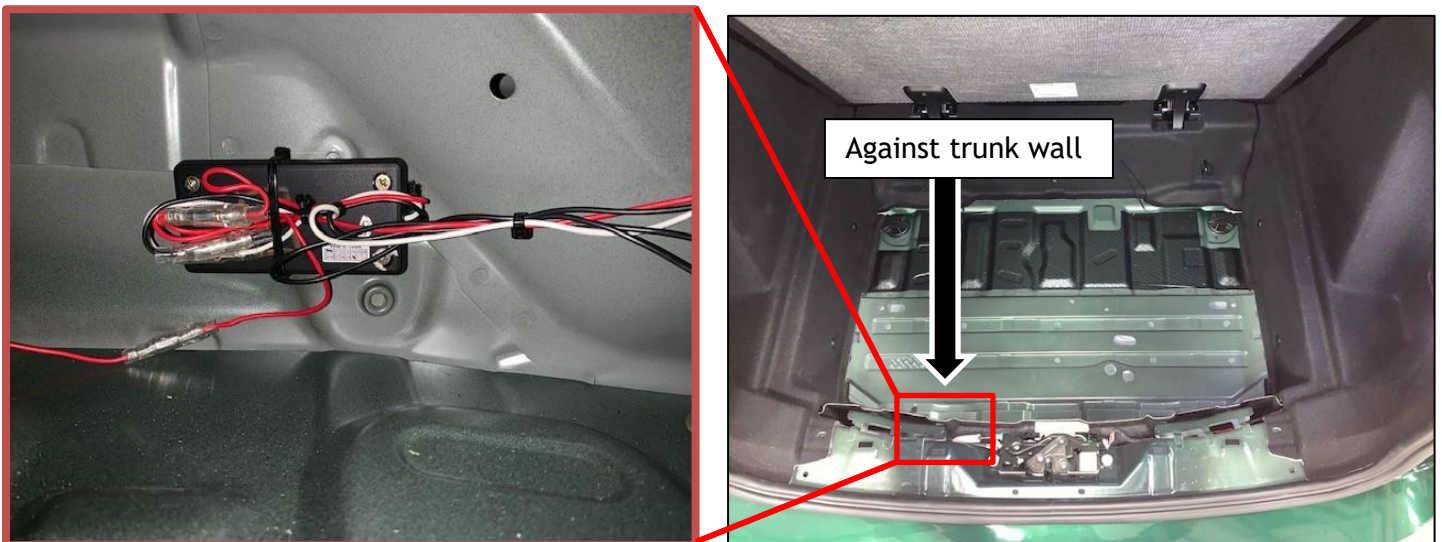

Figure 18: Control Box Mounting
- 8) Attach the control box to the driver's side trunk wall with the supplied Velcro or Zip Tie as shown in Figure 18.